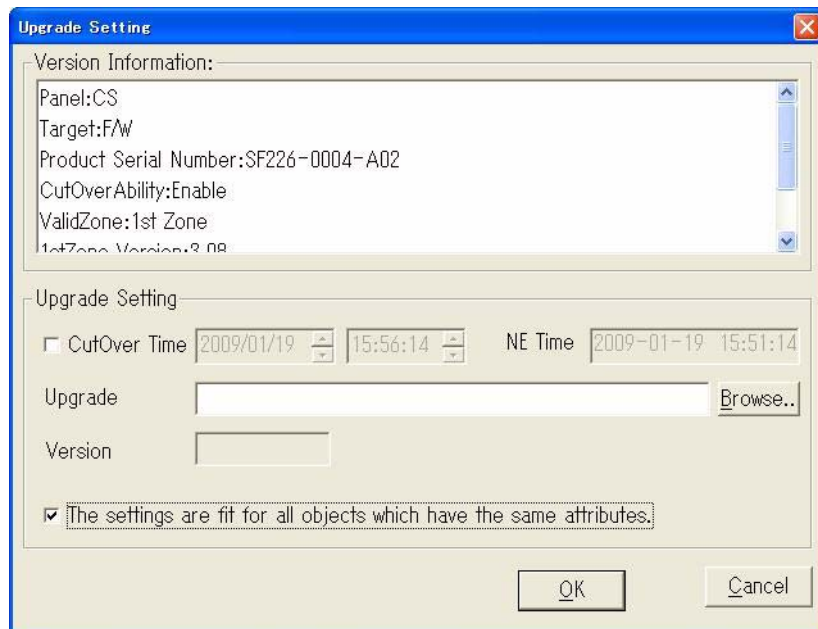

Fig. 4-10-4 Upgrade Setting Dialog Box
- 8 Click the **Set Upgrade** button. The **Upgrade Setting** dialog box is shown in *Fig. 4-10-4*.